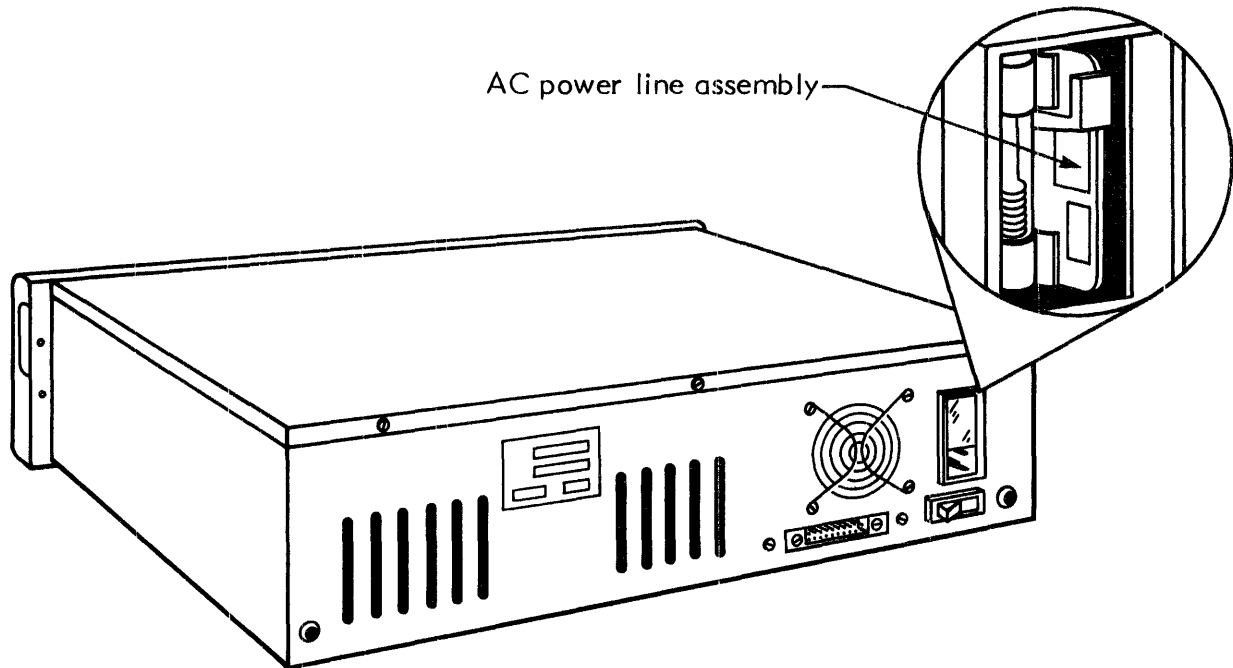

Figure 2-1. AC Power Connector Assembly
The AC Power Connector assembly in the DSD 440 chassis contains a small printed circuit (PC) board. Figure 2-1 is a diagram of the connector assembly. You can make conversions between the two low line voltages (100 VAC or 115/120 VAC) by pulling out this board, changing its orientation and reinserting it. You can convert the DSD 440 between the two high line voltages (220 VAC or 230/240 VAC) using a similar procedure.